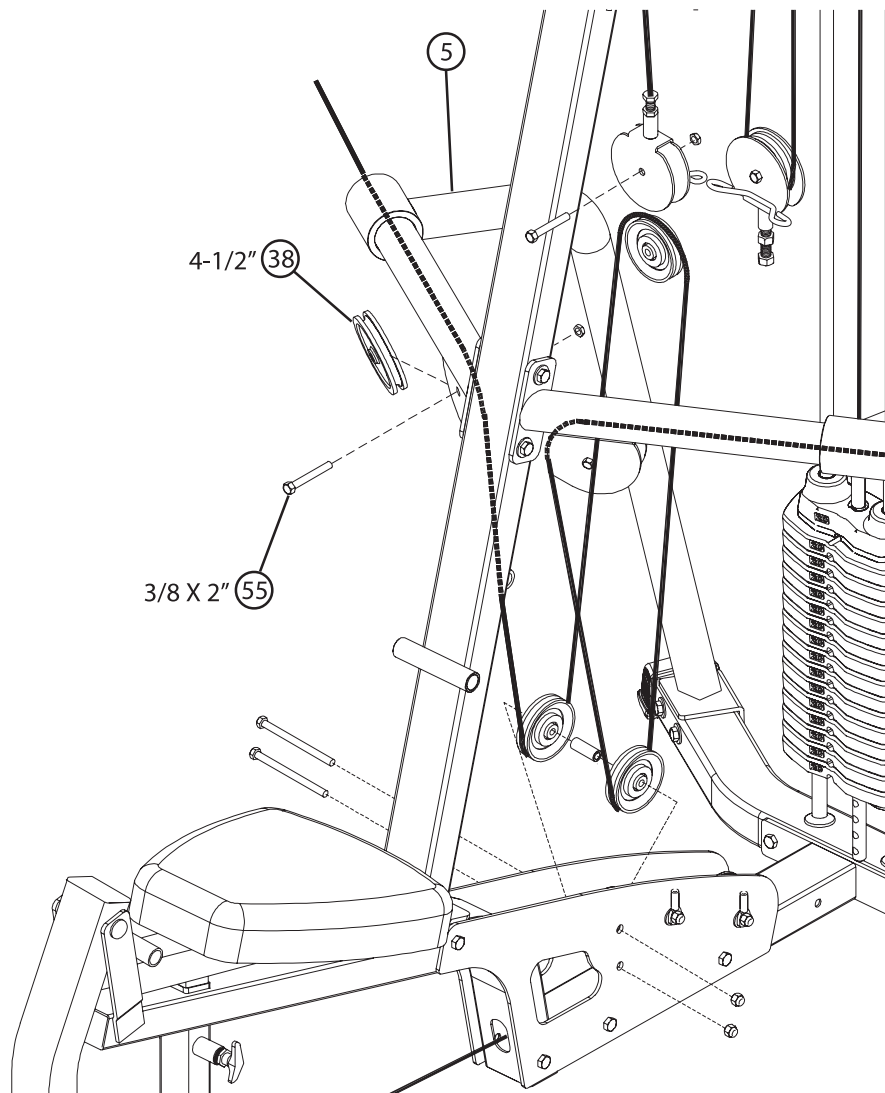

FIGURE 18
- Route the ARM CABLE (31) through the RIGHT ARM (5) as shown in Figure 18.
- Loop the ARM CABLE (31) around one 4-1/2" PULLEY (38).
- Securely assemble the 4-1/2" PULLEY (38) with the ARM CABLE (31) around it to the RIGHT ARM (5), using one 3/8 x 2" BOLT (55) and one 3/8" SILVER LOCK NUT (63).